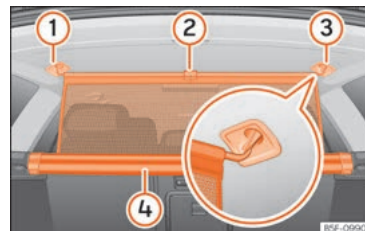

Fig. 179 In the boot: securing the partition net.
- Pull up handle »» Fig. 179 (2) to remove the net from the casing (4).
- Hook in the net partition on the right side ③ (magnified image).
- Hook in the net partition in the left side housing ① pulling the rod.